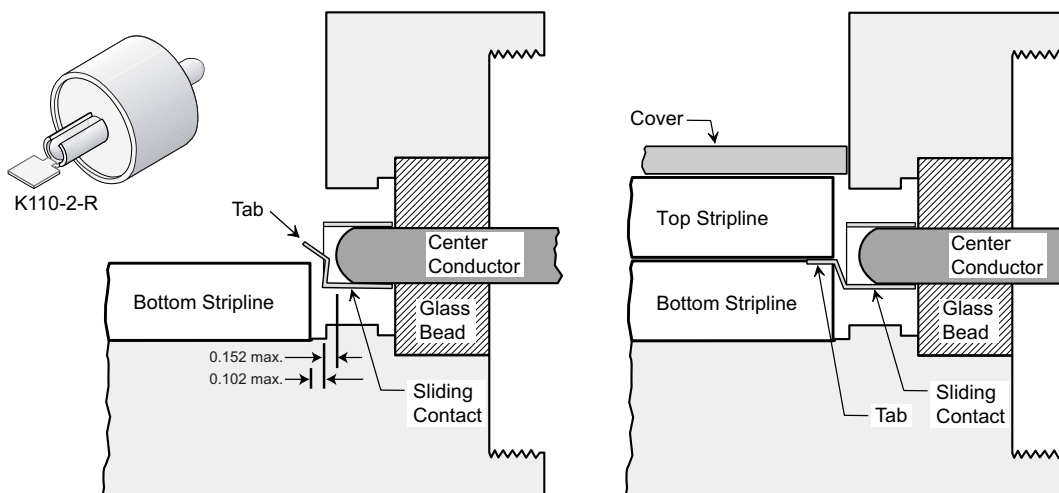

Figure 11-2. **K110-2-R** Sliding Contact Assembly, Method 2
- a. Using the tweezers, place the **K110-2-R** onto the center pin of the bead and position it as shown below in Figure 11-2, left. Gently tilt the tab on the **K110-2-R** upward, then install the bottom stripline into the cavity, sliding it under the tab.
- c. Install the top stripline. The finished assembly should resemble Figure 11-2 below, right.